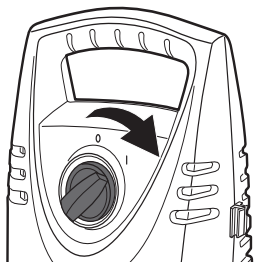

Fig. 17
- > Turn the on/off switch (6) clockwise to its on position ("I") to switch the product on (Fig. 17).